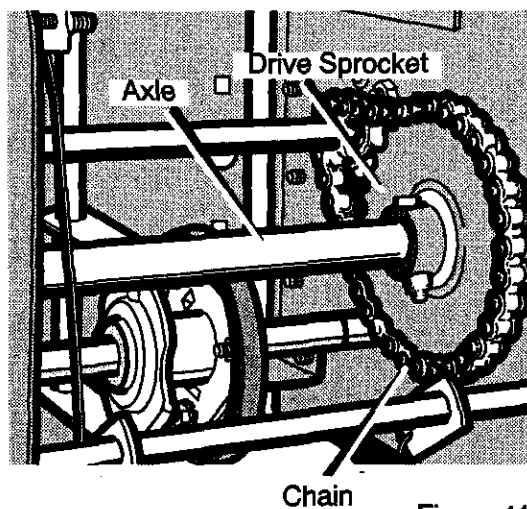

Figure 41
7. Remove the fasteners that secure the **drive sprocket** to the **axle** (see Figure 41).
16. Install the left wheel, axle, and **drive sprocket** with the fasteners removed earlier. Install the **chain** onto the **drive sprocket** (see Figure 41).